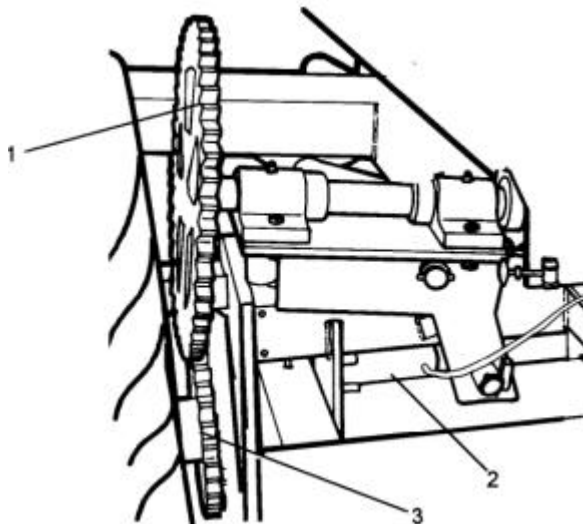

**Figure 5 – 6000 Model**
20. Figure 5 details the drive assembly (1) in the disengaged position. The drive is held in this position by a hydraulic cylinder (2) (Fig 5).
21. When the spinners are engaged the drive assembly (1) is lowered and connects with the gear on the drive wheels (3) (Fig 5). The power is transmitted via a drive shaft under the feed belt to the other side then back to the feed belt via two gears and a chain drive.